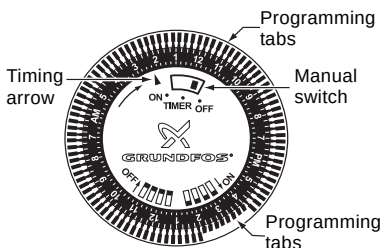

Fig. 7 Timer components
1. Turn the programming ring in the direction of the arrow located on the timer face, until the timing arrow points to the current time. See figs. 7 and 8.